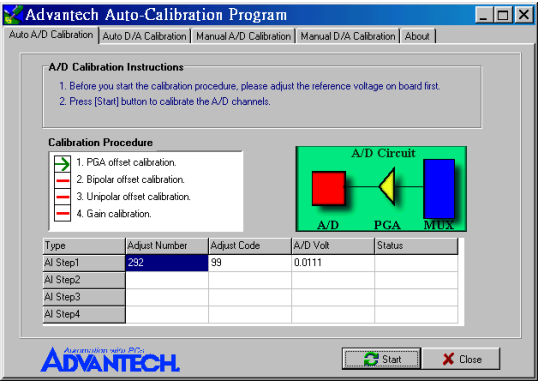

Figure 5-7: A/D Calibration Procedure 1
Step 5: The first A/D calibration procedure is enabled (Fig. 5-7).